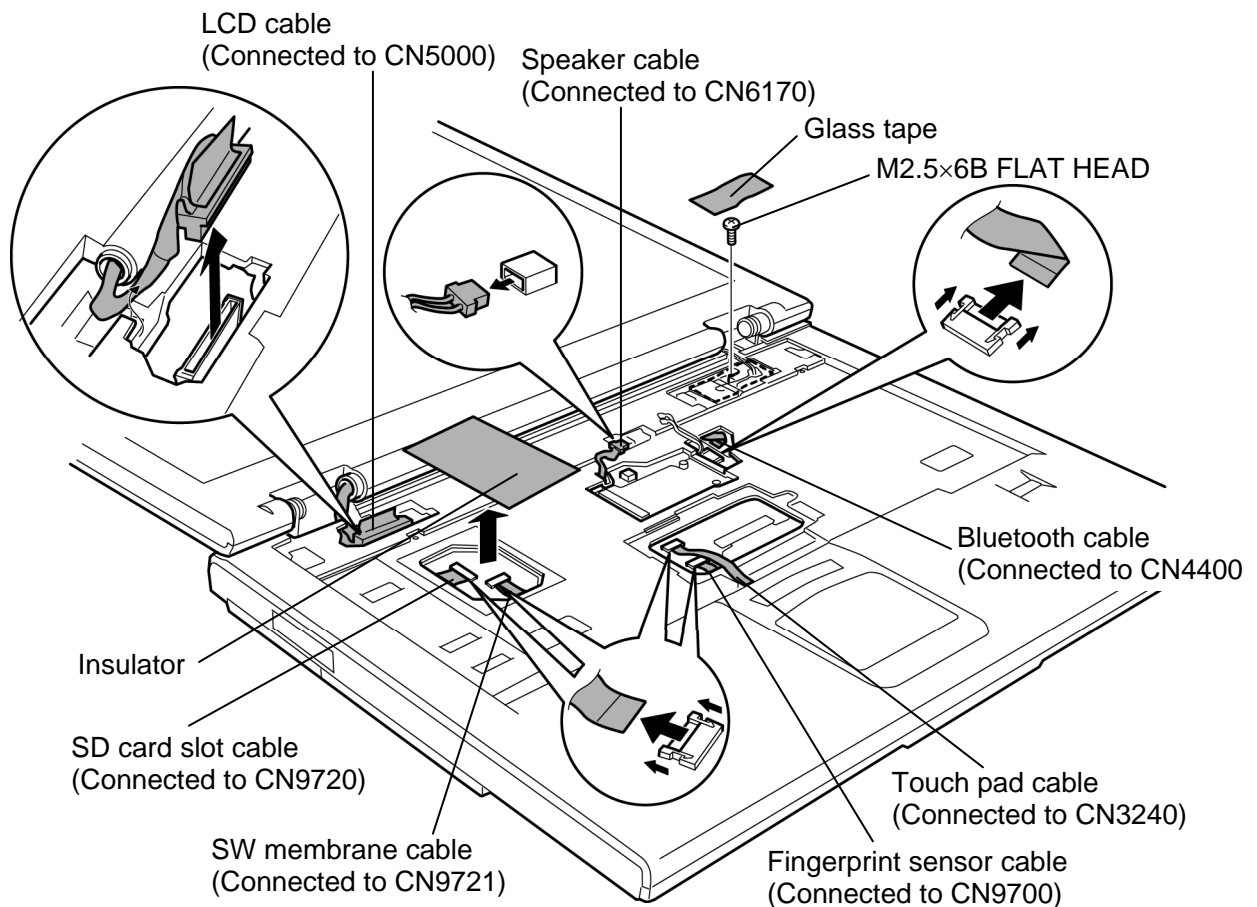

Figure 4-15 Removing the cover assembly (1)
To remove the cover assembly, follow the steps below and refer to Figure 4-15 to 4-17.
To install the cover assembly, follow the steps below and refer to Figure 4-15 to 4-17.
- M2.5×5B FLAT HEAD screw ×1 (“5” in the figure 4-15)
- M2.5×6B FLAT HEAD screw ×11 (“6” in the figure 4-15)
- M2.5×10B FLAT HEAD screw ×3 (“10” in the figure 4-15)
- M2.5×16B FLAT HEAD screw ×3 (“16” in the figure 4-15)